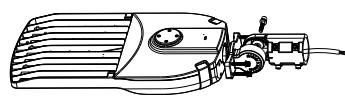

Figure 3
2. Adjustable Fitter Mounting (AM)
- Step 1: Unscrew the bracket mounting screws on the fixture, open the side lid of the bracket, and guide the wires through the bracket. (Figure 3)